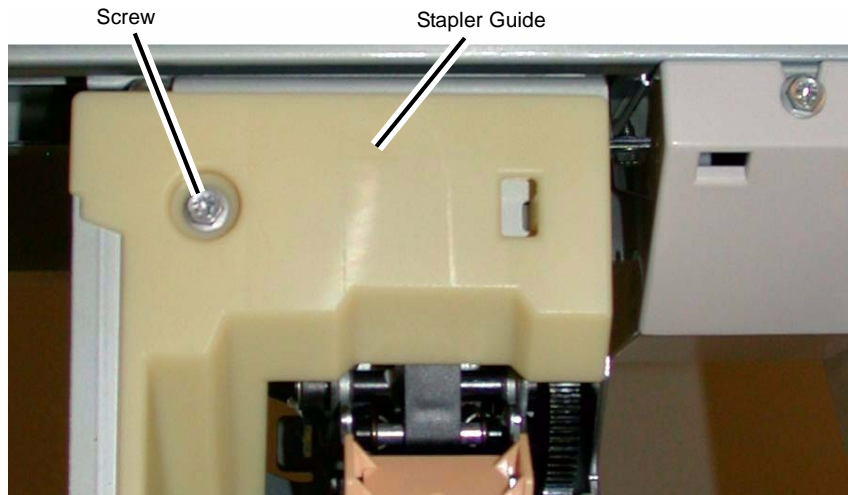

Figure 1 Removing the Stapler Guide
4. Remove the Stapler Guide (Figure 1).
- a. Remove the Screw (1).